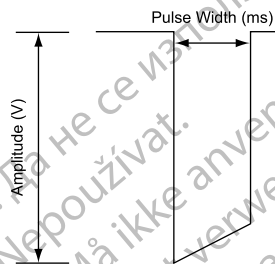

Figure 2–6. Pulse waveform
- The energy delivered to the heart is directly proportional to the Pulse Width; doubling the Pulse Width doubles the energy delivered. Therefore, programming a shorter Pulse Width while maintaining an adequate safety margin may increase battery longevity. To prevent loss of capture, exercise caution when you are programming permanent Pulse Width values of less than 0.3 ms (Figure 2–6 Pulse waveform on page 2-17).
The pulse amplitude, or voltage of the output pulse, is measured at the leading edge of the output pulse (Figure 2–6 Pulse waveform on page 2-17).